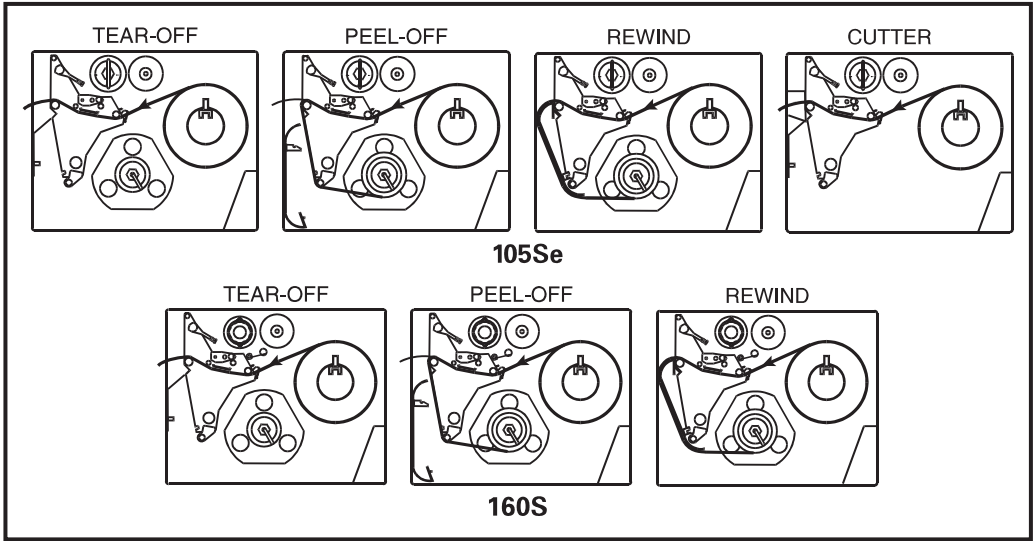

Figure 2.5 Roll Media Loading Diagrams
To load media, move the Printhead Locking Lever to the OPEN position. Refer to Figures 2.5, 2.6, 2.7, and 2.8. When the media is loaded, close the printhead by moving the lever on the upper printhead mechanism to the CLOSED position.
Roll media may contain labels of a fixed length with gaps in between or it may be formed as one continuous length with no gaps (see *Continuous Media* in the Glossary). Both types of roll media mount inside the printer in the same manner. To load roll media, refer to Figure 2.5 and/or 2.6 and do the following:
6. Route the media as shown in Figures 2.5 and 2.6, wind it 1-2 times around a 3" core.
2. Load media as shown in Figures 2.5 and 2.6.
Follow the instructions described in Roll Media with the exception of step 6: first route the media through the Cutter Module (see Figures 2.5 and 2.6) and then close the printhead assembly by moving the lever located on the upper printhead assembly to the CLOSED position.